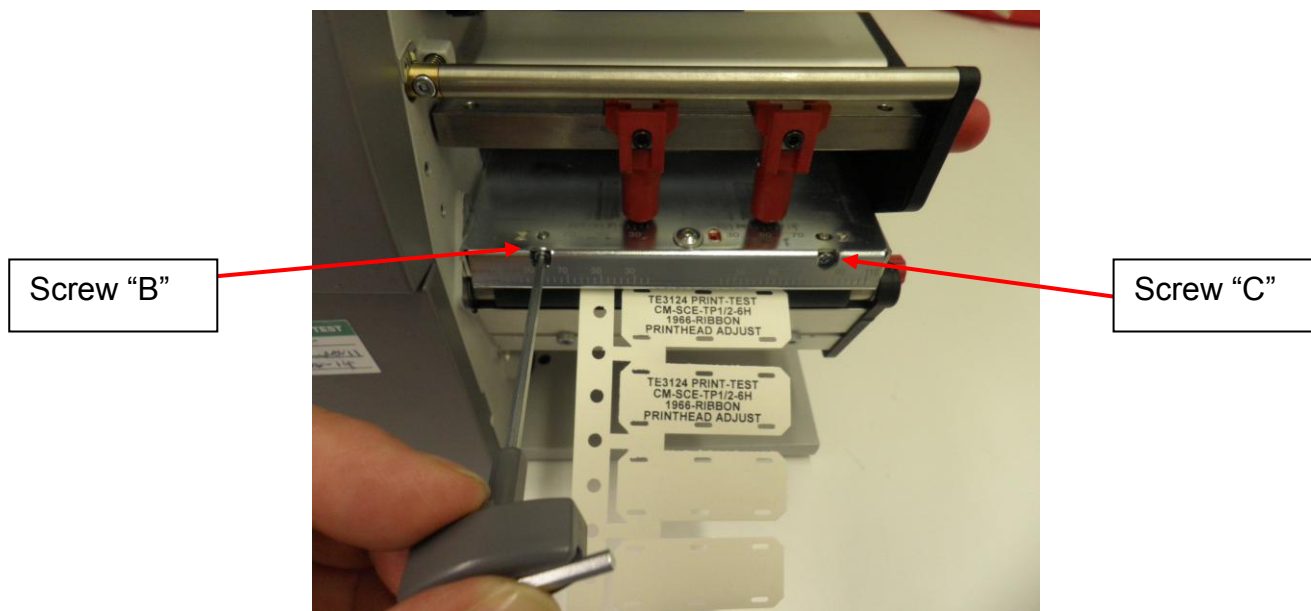

Figure 7 - Printhead alignment screws B and C
- 3.5.** With screw “A” loose, ensure printhead starting position is with alignment marks in factory set position. If the print head is not in the factory default position then adjustment has been previously carried out and this may be the cause of the print quality issue. In this instance it is advisable to adjust the print alignment screws B and C (see Figure 7) back to Factory Default, retighten screw A and repeat the print test (step 3 & 3.1).
- 3.6.** If the printhead is in the Factory Default then printhead adjustment may be required. Turn screw B and C one full turn clockwise, see Figure 7) , retighten screw A and repeat the print test (paragraph 3 – 3.1).
- 3.7.** If the print test result shows a deterioration in print quality loosen screw A and Turn screw B and C two full turns counter-clockwise, see Figure 7) , retighten screw A and repeat the print test (paragraph 3 – 3.1).
- 3.7.1. If the print test result shows an improvement in print quality loosen screw A and Turn screw B and C one full turns counter-clockwise, see Figure 7) , retighten screw A and repeat the print test (paragraph 3 – 3.1).